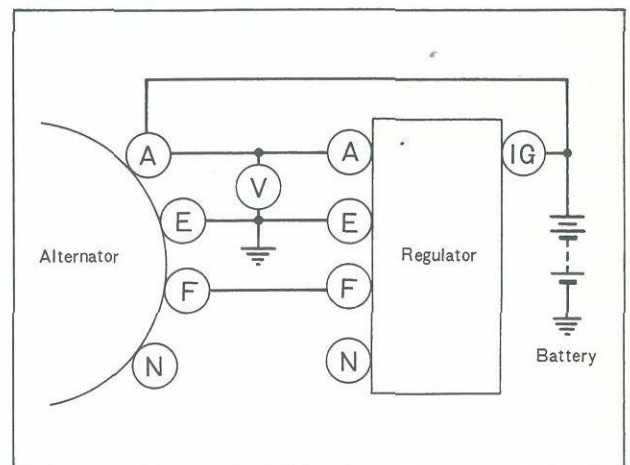

Fig. 5-16 Checking of constant voltage relay
To check, use an almost fully charged battery and connect a voltmeter between the (A) and (E) terminals of the regulator, as shown in Fig. 5-16. Then, hold the alternator revolution to 4,000 rpm (engine revolution 2,000 rpm) and take a reading of the voltmeter. If the reading is from **13.5 ~ 14.5 volts**, it is in proper order. If it is not within the specifications, the voltage relay must be adjusted, as instructed in Par. 5-F-2.